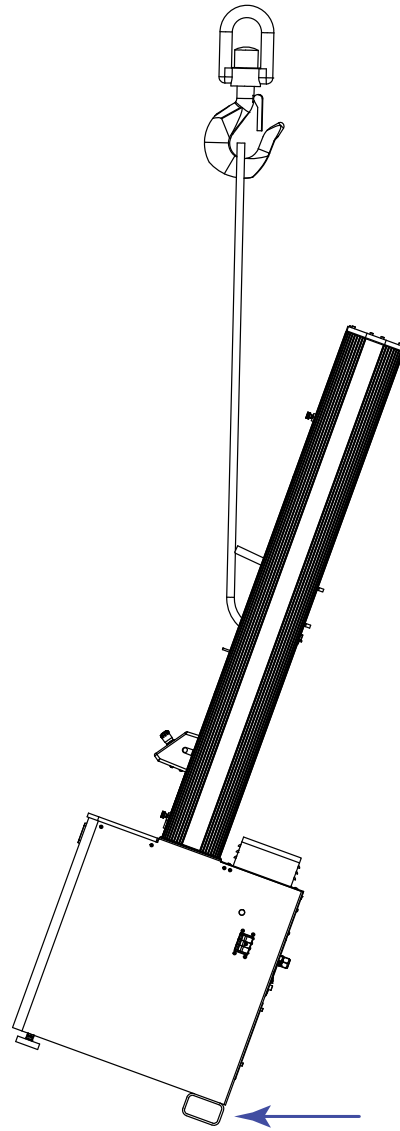

Figure 24. Righting the load frame
5. Slowly lift the frame into a vertical position (see Figure 24 on page 81).
During the lift, ensure that the only parts in contact with the shipping skid or the floor are the tubular brackets at the rear of the frame base (indicated by the arrow in Figure 24 on page 81).